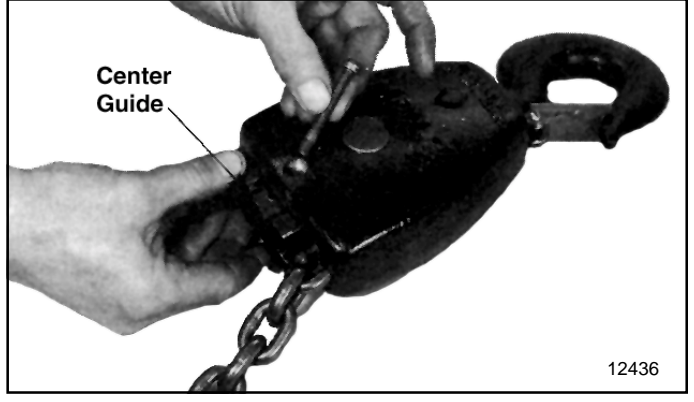
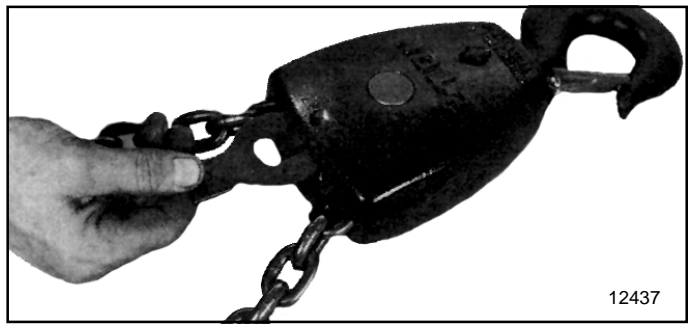
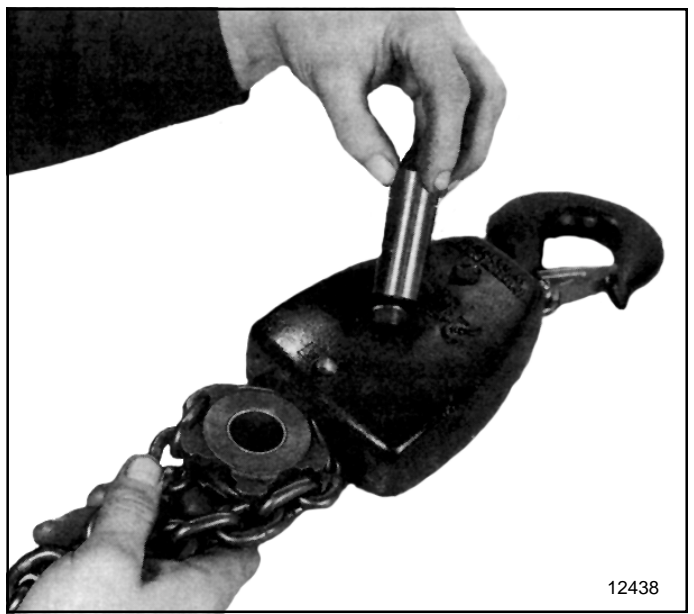

Figure 7-24. Removing Chain Center Guide from Double and Triple Reeved Lower Block Assembly
Figure 7-25. Removing Sprocket Pin Lock on Double and Triple Reeved Lower Block Assembly.
Figure 7-26. Removing Coil Chain and Sprocket on Double and Triple Reeved Lower Block Assembly
- (1) On double reeved models, remove fillister head screw securing center guide in top of lower block body and lift out guide (Figure 7-24) and sprocket pin lock (Figure 7-25). Press sprocket pin from body and pull out chain, sprocket and washer (Figure 7-26). Do not remove bushing type bearing from sprocket or pressure lube fitting from sprocket pin unless replacement is necessary.